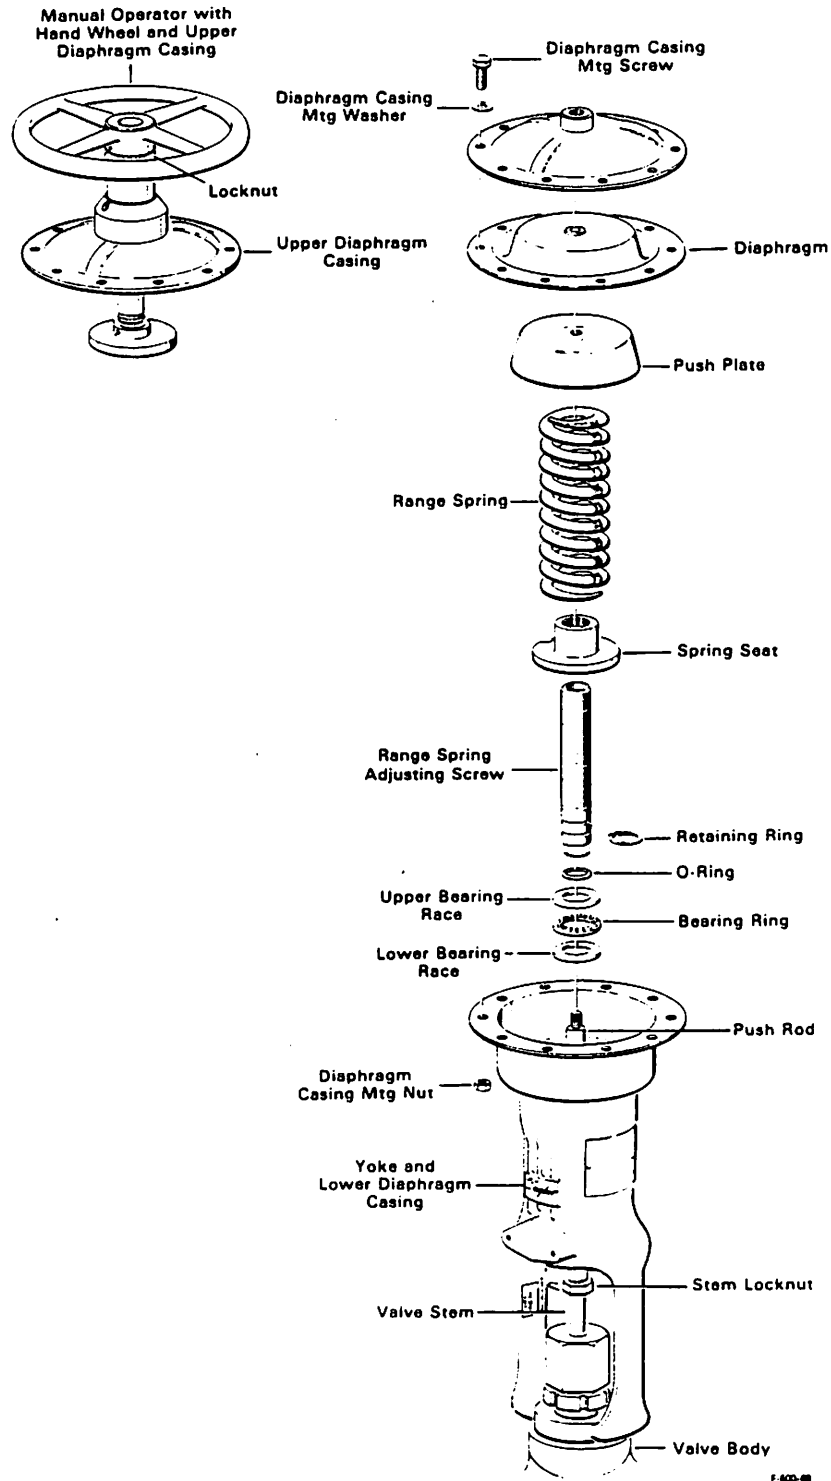

Figure 24. Exploded View of Air-to-Lower Actuator
4. Loosen and remove all diaphragm casing mounting screws, nuts and washers, Figure 24.
5. Loosen and remove all diaphragm casing mounting screws, nuts and washers, Figure 24.
4. Loosen and remove all diaphragm casing mounting screws, nuts and washer, Figure 24.